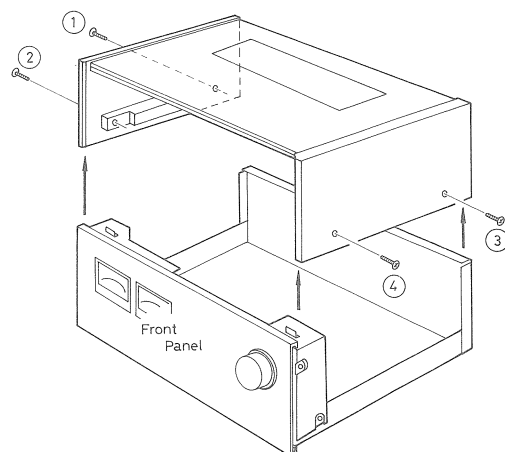

Fig. 1
1. Remove four (4) cabinet-mounting screws, nos. ① ~ ④, as shown in fig. 1.